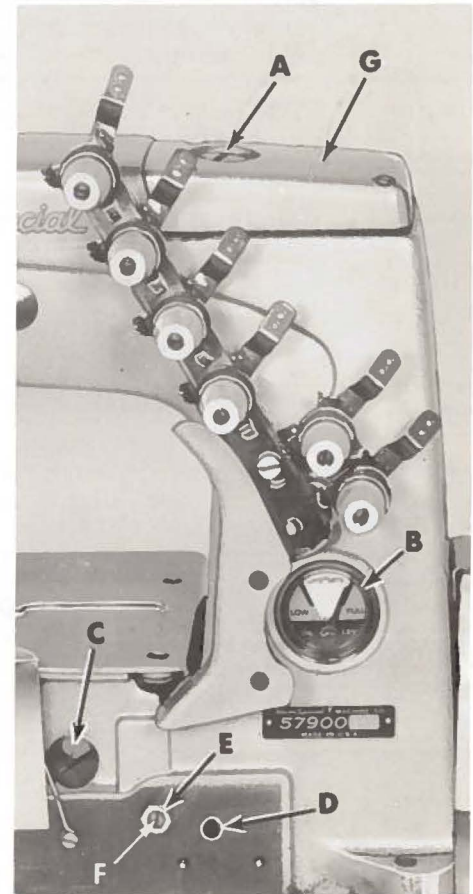
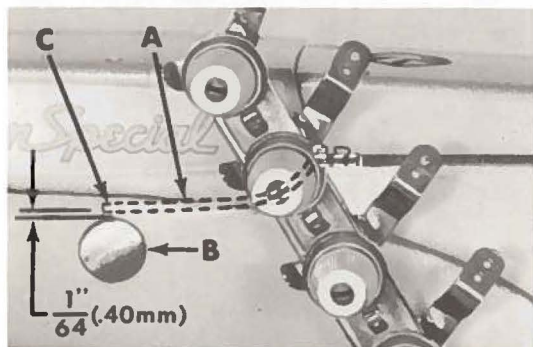

Fig. 2
Fig. 3
Use a straight mineral oil of a Saybolt viscosity of 90 to 125 seconds at 100° Fahrenheit in the main reservoir. This is equivalent to Union Special specification No. 175. Fill main reservoir at plug screw in upper crank chamber cover (A, Fig. 2) and check oil level at gauge (B). Oil is at maximum safe operating level when needle is to the black line, located to the right of "OPERATE" zone, marked "FULL". Oil should be added when needle is to the black line, located to the left of "OPERATE" zone marked "LOW". Recommended grease No. 28604 P (See Page 13).
For machines in operation check the oil for dirt and lint deposits at reasonable intervals. If dirty, change the oil. An oil change is recommended every 2000 operating hours. Oil may be drained from main reservoir by removing plug screw (C, Fig. 2) located below the cloth plate at front of the machine, or by removing the lower crank chamber cover, located at the back of machine.
2. Remove the oil reservoir plug screw (C, Fig. 2) and tip machine forward to drain oil from the reservoir.
5. Fill main reservoir to a level even with the bottom contour of the knee press shaft bushing (D, Fig. 2).
Remove the head cover and upper crank chamber cover (G, Fig. 2). Check position of needle lever bearings oiler (A, Fig. 3) located inside the arm casting, below the upper crank chamber cover, which lubricates the needle lever stud (B). Make sure it is tilted downwardly and that its delivery end (C) contacts the inside wall of the bed casting at the back, just above the notch of the needle lever shaft stop collar. (Do not allow the oiler to rest on the needle lever). Allow 1/64 inch (.40 mm) clearance as in Fig. 3.